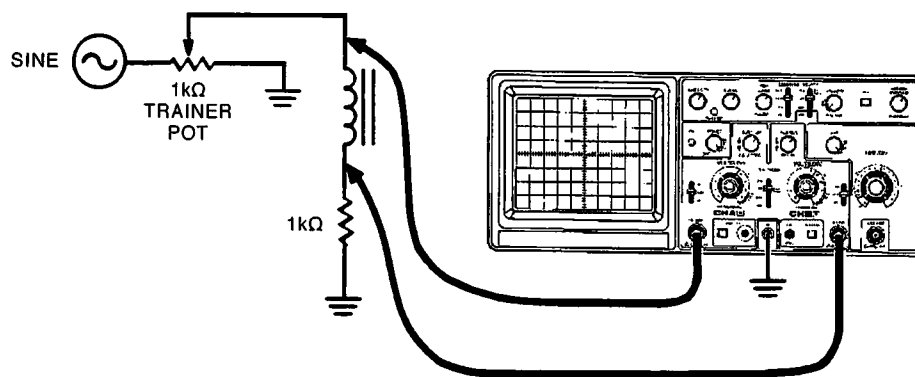

Figure 4-32
33. Switch the Trainer off and construct the circuit shown in Figure 4-32. Note that the probe that is connected between the inductor and resistor in the circuit is attached to the Channel B input of the scope.